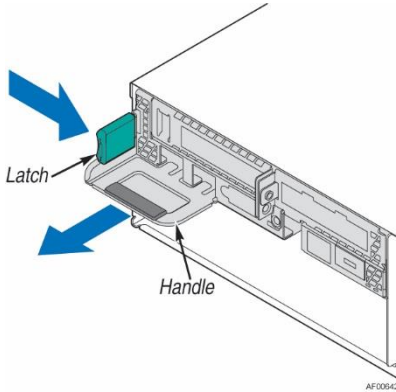

Figure 31. Removing the compute module
1. While pressing the latch, pull out the handle with the compute module (Figure 31).